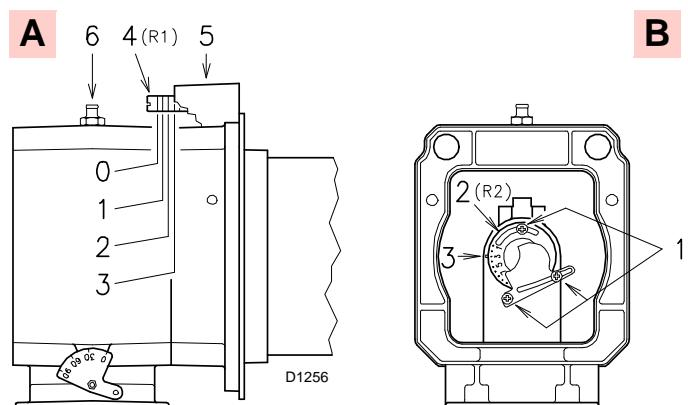

Fig. 13
At this stage of installation the blast tube and the pipe coupling are secured to the boiler as shown in A)(Fig. 13).
- air R1 (A, Fig. 13)
- gas/air R2 (B, Fig. 13)
Rotate the screw 4(R1)(Fig. 13) until the notch you have found corresponds with the front surface 5(Fig. 13) of the flange.
To facilitate the adjustment, loosen the screw 6 (Fig. 13), adjust, then block.
Loosen all 3 screws 1)(Fig. 13) and rotate the ring nut 2) until the notch you have found corresponds with the index 3). Block the 3 screws 1).
allows it, by closing the ring nut 2) (Fig. 13) you obtain reductions in the formation of NOx.